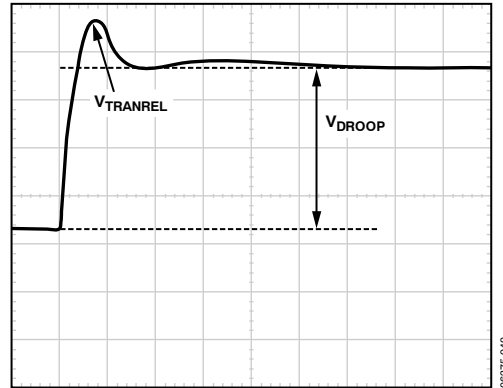

Figure 40. Transient Setting Waveform, Load Release
3. For load release (see Figure 40), if  $V_{TRANREL}$  is larger than the value specified by IMVP-6+, a greater percentage of output capacitance is needed. Either increase the capacitance directly or decrease the inductor values. (If inductors are changed, however, it will be necessary to redesign the circuit using the information from the spreadsheet and to repeat all tuning guide procedures).